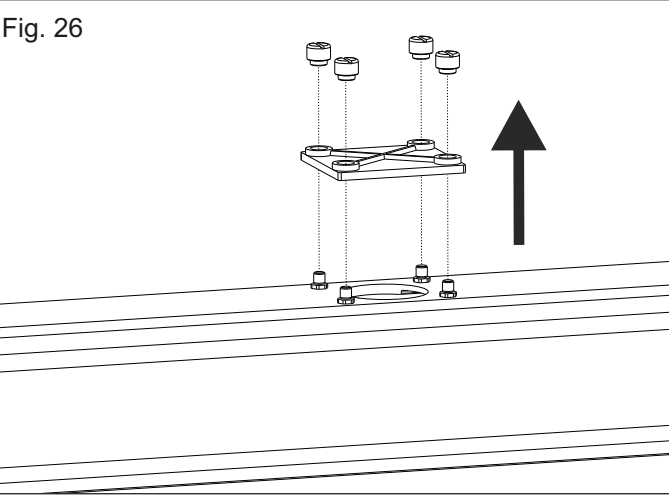

Fig. 26
- Unscrew and remove the protective plate (Fig. 26)